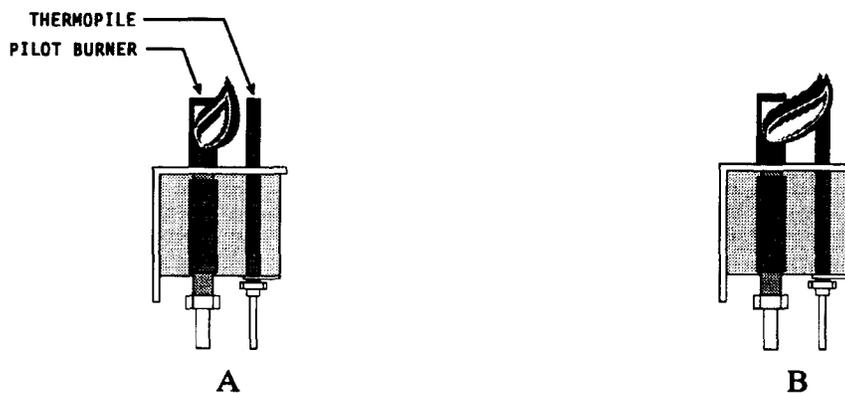

Figure 1-2 Pilot Assembly, Flame Adjustment
1.5.2.1.1 Pilot Flame Adjustment - The pilot flame should be adjusted to produce the proper millivolt output from the pilot sensing device. Millivolt output for the thermopile should be between 300 and 500 millivolts. Figure 1-2 shows the pilot assembly with examples of the incorrect and correct pilot size. Example A illustrates a pilot flame size that is too small to produce sufficient millivolt output. Example B is the correct size for proper millivolt output.